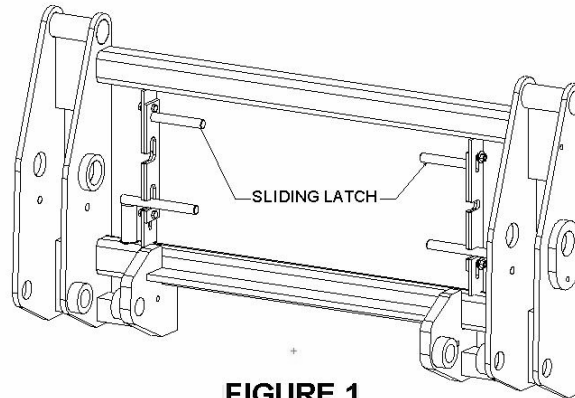

FIGURE 1.
STEP 1 For a new loader installation, the mountings must be installed on the tractor first. Refer to the typical mounting kit shown in Figure 1. A detailed schematic of your specific kit is available—just call 1-800-570-8205 if the schematic was not included with your new loader.
STEP 1 DRIVE THE TRACTOR ONTO FLAT CONCRETE and place the loader in the position shown in Fig 1.
1. Raise sliding latches as shown in Figure 1.
3. Rotate QT pins out of the upper notches, lower, and then rotate them into the lower notches on the sliding latches as shown in Figure 1. **NOTE:** If the QT pins do not easily slide thru the lug on the attachment, do not force them. Simply rotate the attachment back and forth slowly with the bucket cylinders of the loader and the QT pins should fall into place. Periodically grease the QT pins and sliding latches.